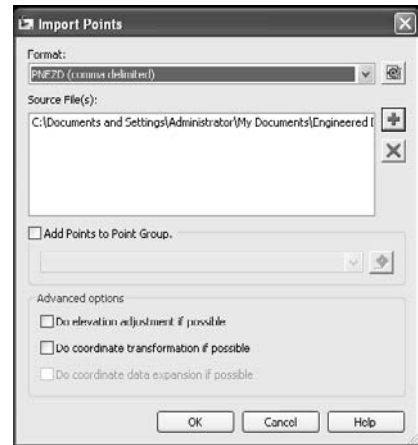

Figure 5.2
6. Back in the `Import Points` dialog, uncheck the `Do Elevation Adjustment If Possible` box. The dialog should look like Figure 5.2.